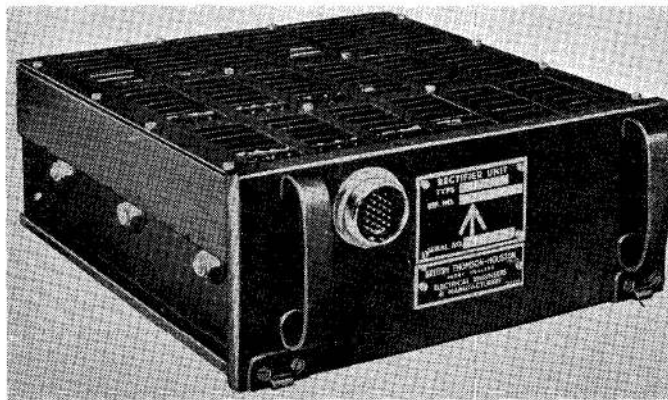

Fig. 1. Rectifier unit, Type CP16
2. The rectifier unit (*fig. 1*) is intended for mounting on a standard tray. It has a detachable top cover, and the three rectifier units, MR8, MR9 and